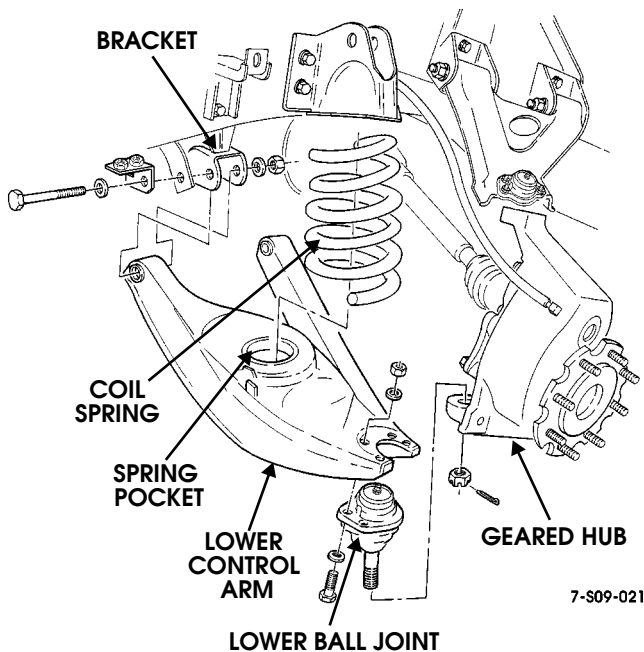

Figure 9-11: Lower Control Arm Replacement
4. Remove four locknuts, washers, and bolts, from lower ball joint and lower control arm (Figure 9-11).
1. Install lower control arm on brackets with two washers, bolts, washers, and locknuts. Do not tighten locknuts (Figure 9-11).